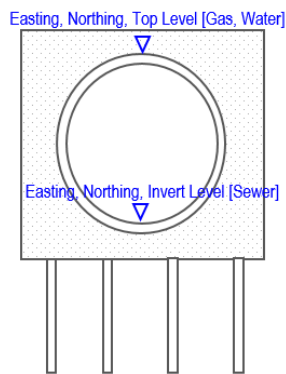

Figure 3: Pipes
- i. *Easting, Northing and Top / Invert Level* shall be surveyed at positions as shown in Figures 3, 4 and 5.